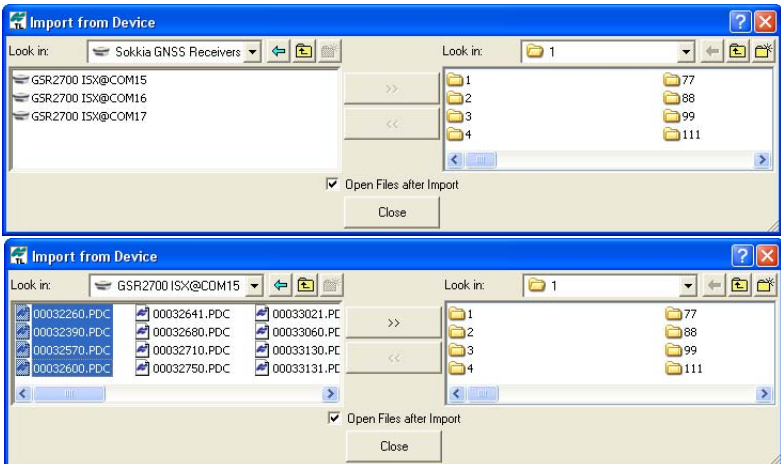

Figure 4-5. Import File from Sokkia GNSS Receiver
6. The Sokkia GNSS receiver node contains three independent COM ports. Clicking on a port will display all logged GNSS raw data files. The user can simultaneously import different raw files from each COM port to the computer (Figure 4-5 on page 4-7).